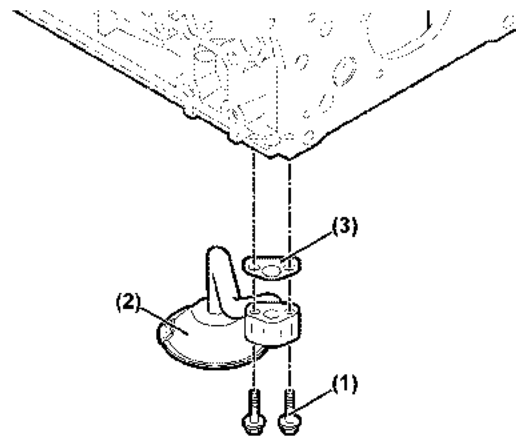

Figure 8-11
3. Remove bolts (Figure 8-11, (1)). Remove oil inlet pipe (Figure 8-11, (2)) and gasket (Figure 8-11, (3)).